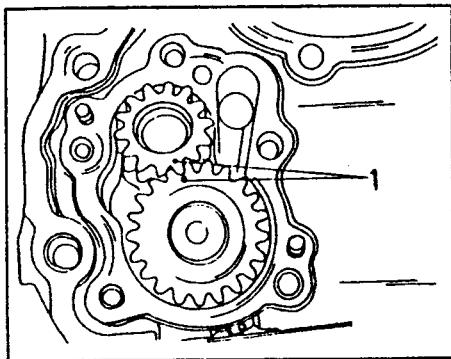

Fig. 2.7. — Aligning the timing marks when fitting the oil pump gears of a 2.0 litre engine. Arrange the marks (1) opposite each other.
gearwheels of a 2.0 litre, align the two mating marks as shown in Fig. 2.7. The final installation is carried out together with the front housing, described below for this engine. The two rotors of the 1.8 litre engine must have their marks facing towards the outside, as shown in Fig. 2.1 on page 67.
- Check once more that the two pump gearwheels are aligned as shown in Fig. 2.7. The two alignment marks must be opposite each other.